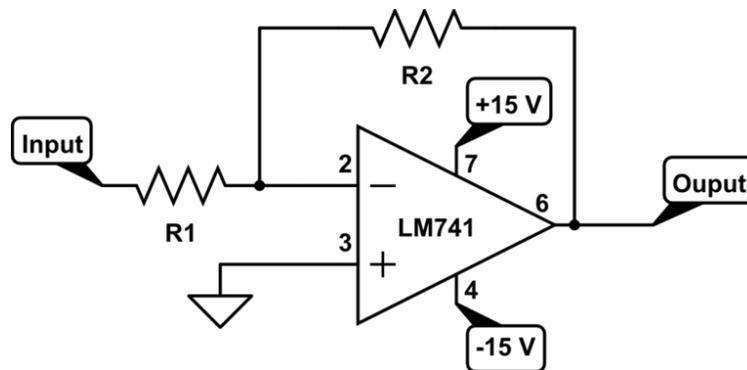

Figure 4: Inverting Amplifier. The supply voltages and pin numbers are shown here to help you get started. They won't be shown in the future!
- Q. In EveryCircuit, simulate the inverting amplifier circuit shown in figure 4 with $R_1 = 1 \text{ k}\Omega$ and $R_2 = 10 \text{ k}\Omega$. (You can flip the opamp to make it match the diagram by selecting it and hitting ‘f’.) Connect a sine wave source to the input. Plot the input voltage (click on the wire NOT on the sine wave generator) and the output voltage. Include a screenshot in your report and be ready to show the working simulation at the beginning of lab.
- Construct the inverting amplifier circuit shown in figure 4 with $R1 = 1k\Omega$ and $R2 = 10k\Omega$.